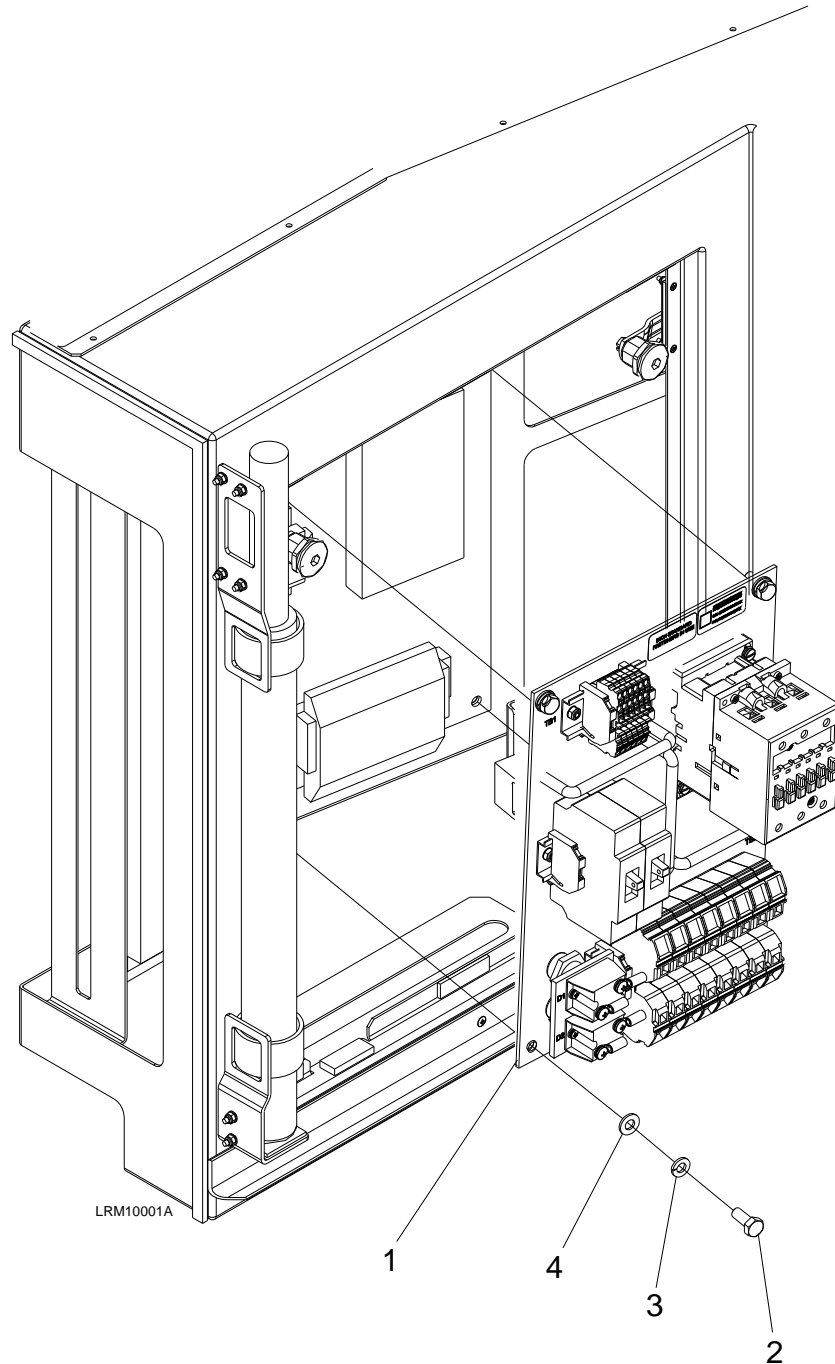

Figure 7-1: Track Brake Panel A/B
See Figure 7-1.
Visually inspect connections, wires, blow out any dust or foreign matter from the enclosure using dry, low pressure (30 psig), compressed air every 60,000 miles. See Figure 7-1.
The removal and installation procedures for the track brake panels are provided below. See Figure 7-1.
2. Remove the electrical connections to the Track Brake Panel A/B (1). See Figure 7-1.
3. Remove the four M8 x 20 bolts (2), M8 lock washers (3), and M8 plain washers (4).
4. Carefully remove the Track Brake Panel A/B (1).
1. Remove the cab access panel to the left of the Operator's Seat. See Figure 7-1.
2. Carefully install the Track Brake Panel A/B (1) aligning the mounting holes.
3. Install the four M8 x 20 bolts (2), M8 lock washers (3), and M8 plain washers (4).